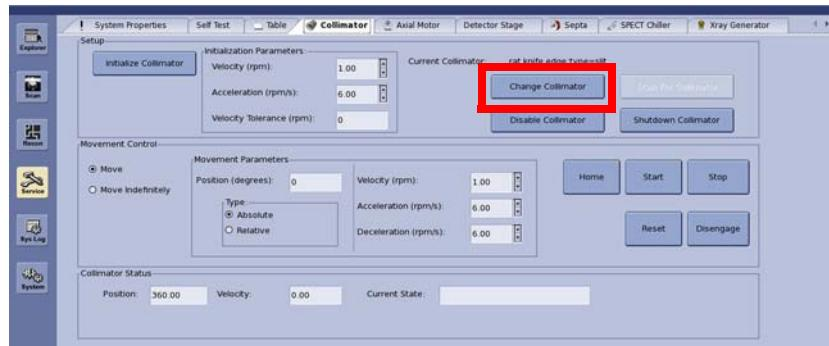

Figure 4-16
6. Select Change Collimator from the Collimator Service page (Figure 4-16) or Change Collimator from the Collimator tab on the Tableside Touch Screen. The solenoid lock should release.